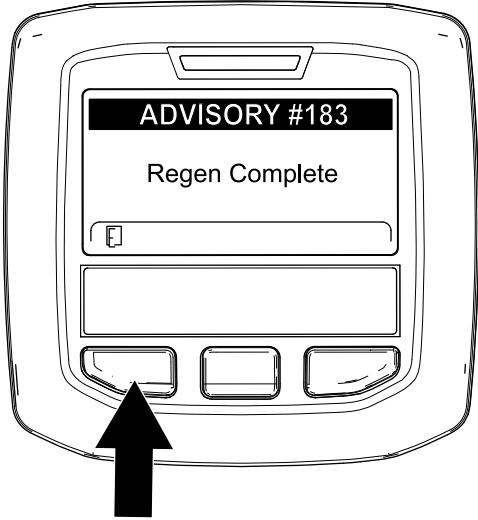

Figure 56
- When the engine computer completes a parked or recovery regeneration, the InfoCenter displays ADVISORY #183 (Figure 56). Press the left button to exit to the home screen.
Note: If the regeneration fails to complete, the InfoCenter displays Advisory #184 (Figure 56). Press the left button to exit to the home screen.